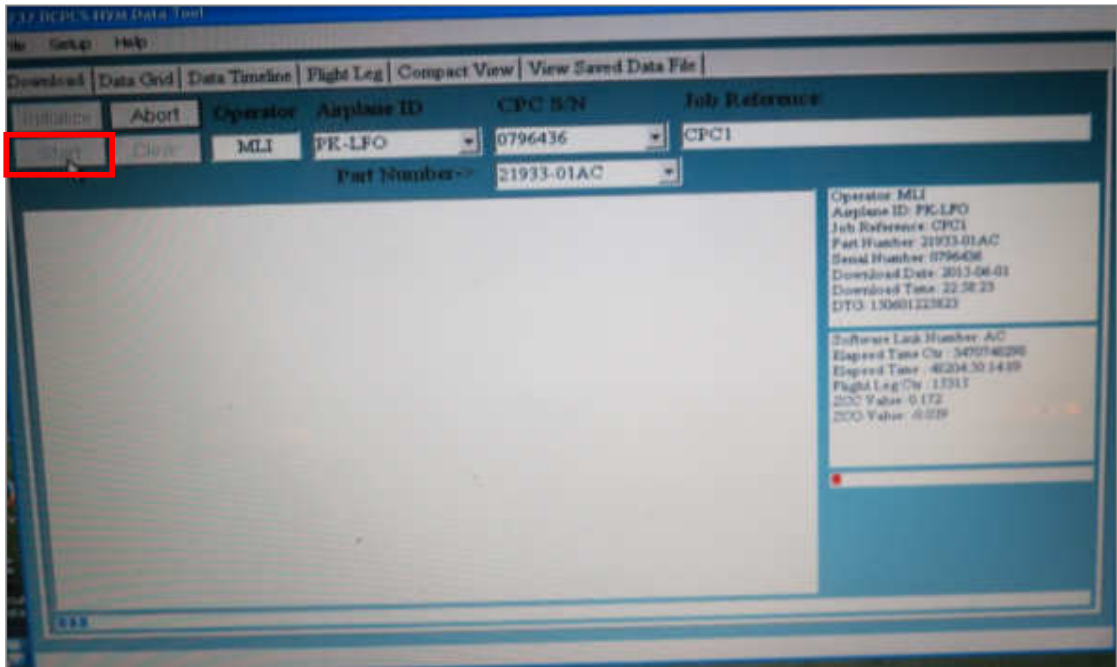

FIGURE 5: NVM DATA START PROCESS
10.	Push the START button on the NVM window to initiates download of the NVM data if valid user information has been entered and a valid. (Figure 5)